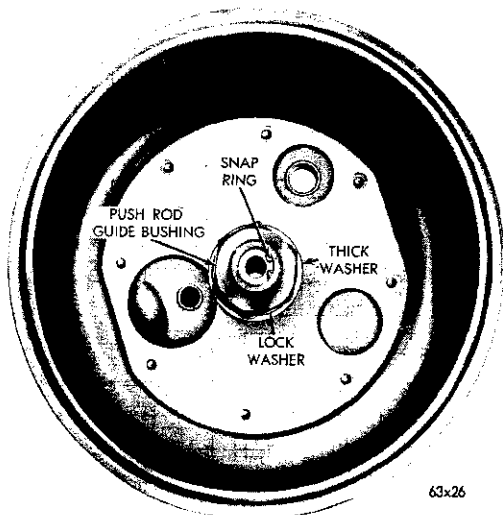

Fig. 42—Housing and Piston Guide
(7) Using a standard $1\frac{1}{8}$ " socket, unscrew the push rod guide bushing from the slave cylinder housing and remove the front shell, a thick spacer washer and a lock washer. Remove and discard the "O" ring from the rolled tube that protrudes from the back of the control valve housing, and the gasket that seals between the control valve housing and the front shell of the booster. Remove and discard the "O" ring from a groove around the front end of the guide bushing (Fig. 42). Remove the Truarc snap ring, flat washer and lip seal from the counterbore in the front end of the guide bushing. Discard the seal. Remove the Truarc snap ring and lip seal from the counter bore in the rear end of the guide bushing. Discard the seal. Insert a slender screw driver forward through the slave cylinder bore and push the slave cylinder piston assembly, cup, and spring retainer out through the front of the bore. Discard the cup.
(8) The slave piston assembly is serviced as an assembly. Within the piston body there is a loose fitting plug, a plug return spring, and a snap ring. It may be disassembled for cleaning and inspection by removing the snap ring. The plug has a rubber disc inserted